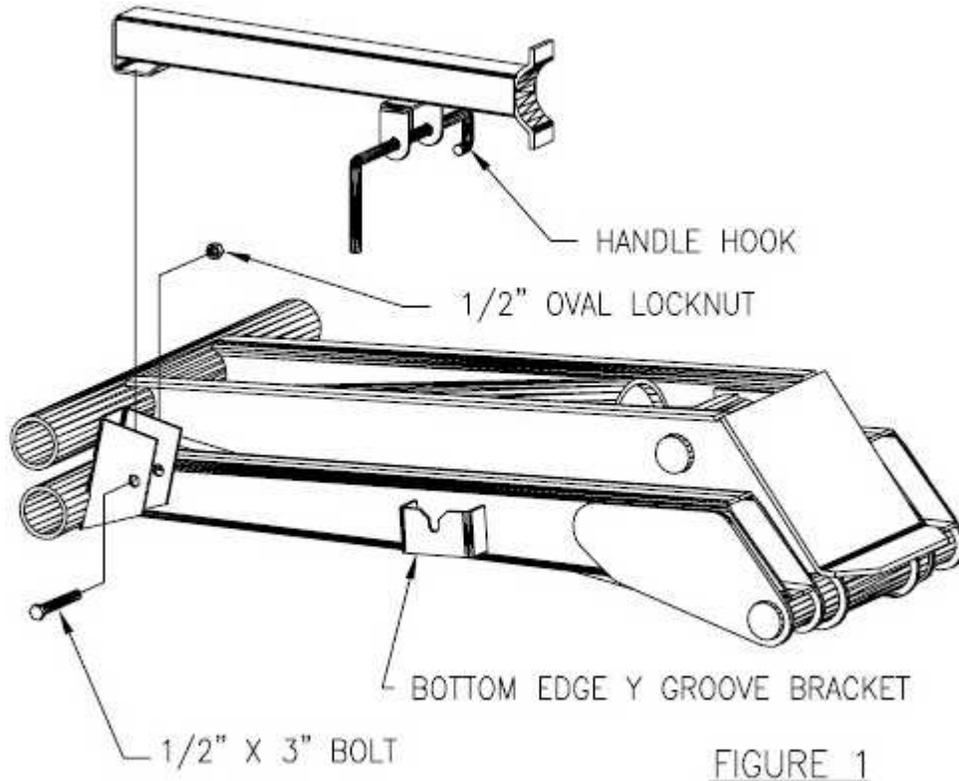

FIGURE 1
2. Insert the body prop into the body prop bracket. Making sure that the handle hook is pointing towards the hoist. Refer to Figure 1.
3. Fasten the body prop to the body prop bracket with the supplied 1/2" oval locknut and 1/2" x 3" bolt. Tighten locknut until body prop binds when moved. Then back off locknut until body prop just slides freely. See Figure 1.
5. With the handle still pushed in, rotate the handle until the handle hook locks against the bottom of the Y groove bracket. See Figure 1.